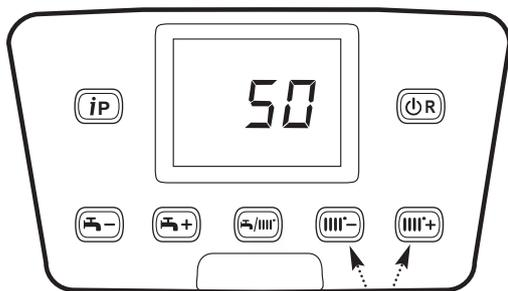

Fig. 25
6. Normally the display will show the current temperature of the water in the boiler (e.g. 41°C). As the buttons are pressed (Fig. 25) the curve identification code will be shown, from '00' to '90'.